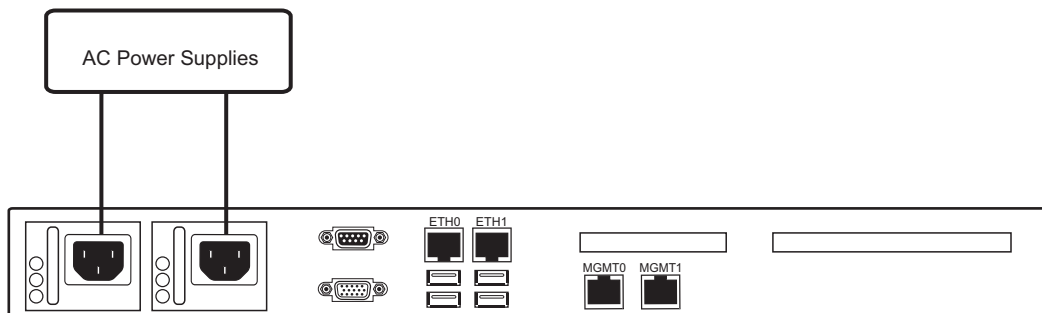

Figure 3.3 7800-CTRL AC Power Connections
1. Connect the first power connector of the 7800-CTRL to the first power source. See Figure 3.3.